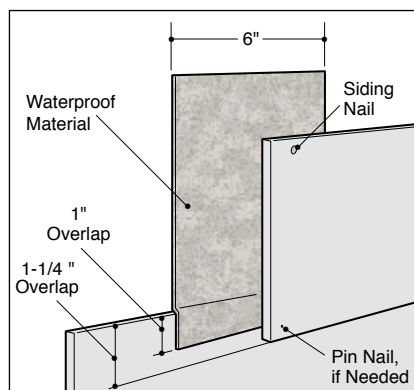

fig. 9
- Eotek recommends the use of a 6" wide piece that overlaps the course below by 1" and extends beyond the top of the siding board at the joint (fig. 9).